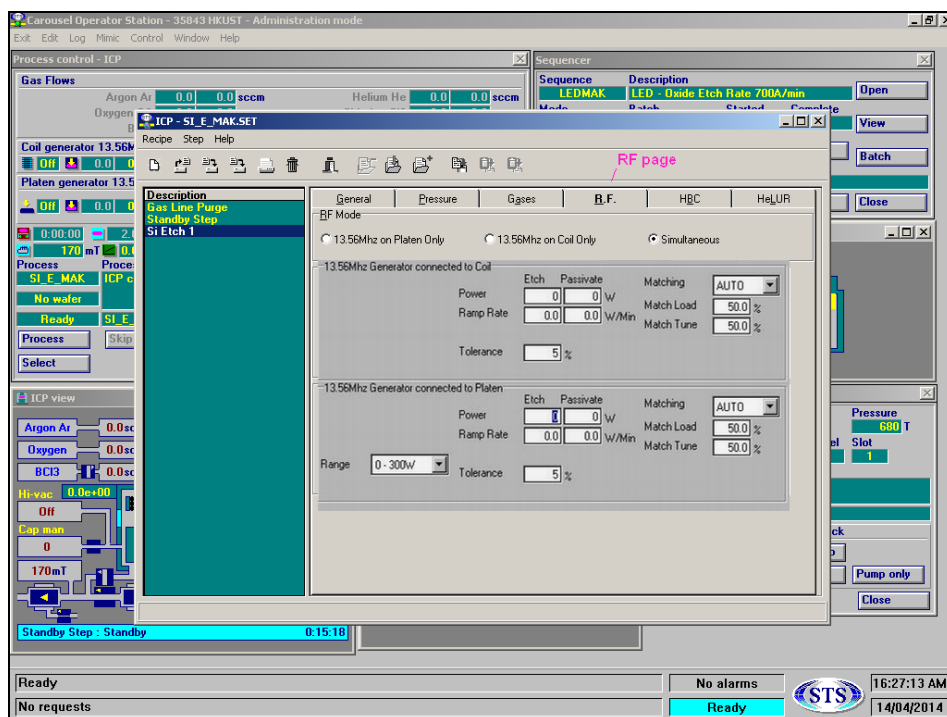

Fig.15 RF Page screen
Power, Tolerance and Matching parameters in etch/passivation phase can be input in this page. However, please consult NFF etching module staffs if you are not sure how to set these parameters. DRIE user who failed to set the RF page will cause serious damage to the equipment. The following provides details description of the RF page (Fig.15).
3) Waiting for Match: the load/tune capacitors of the matching unit will move to the pre-set position designed in recipe. For details setting of the RF and matching parameters, please refer to section 6.1 (Fig.9b & Fig.15).